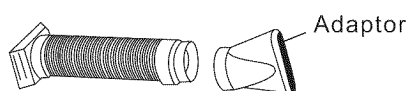

Fig. 18
2. Install the window Exhaust adaptor (flat mouth) onto the exhaust hose as shown in Fig. 18. Refer to the previous pages for window kit installation.